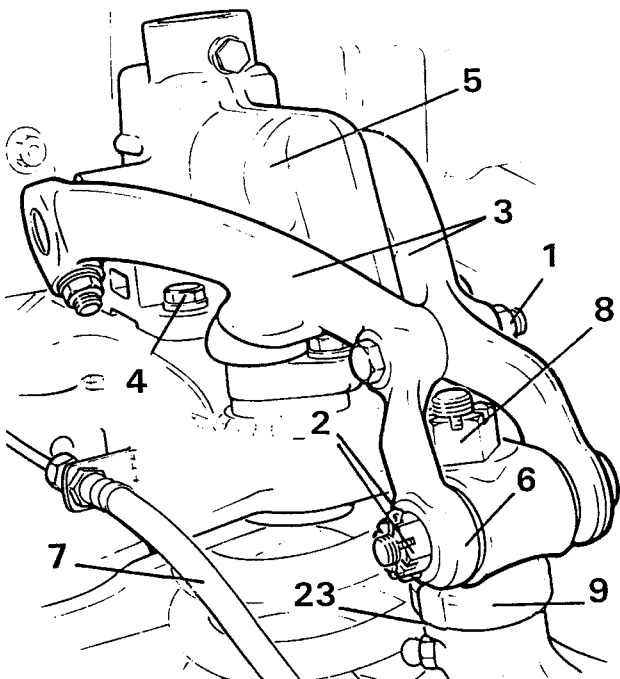

Figure 4
1. Unscrew the nut and remove the clamping bolt and washer from the top wishbone. See figure 4.